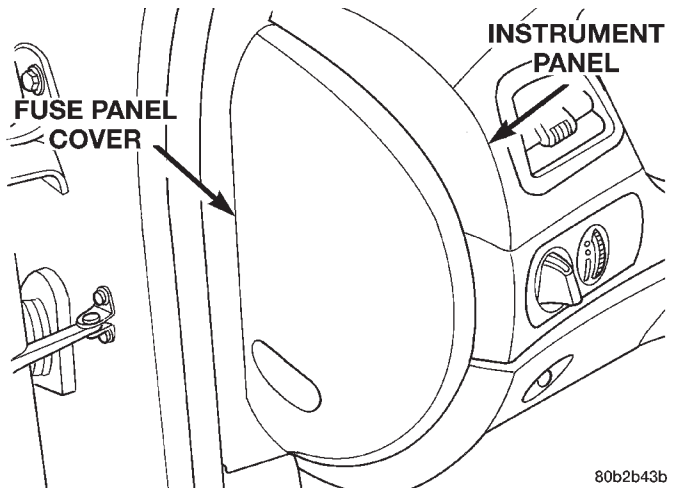

Fig. 3 Fuse Panel Cover
(2) Remove the fuse panel cover from the left end of the instrument panel (Fig. 3).